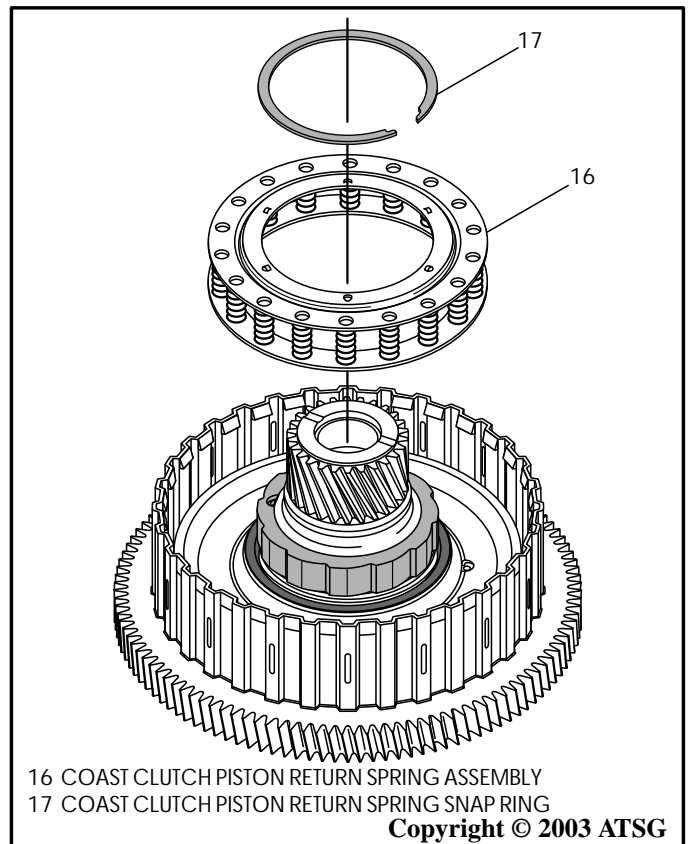

Figure 152
9. Install the coast clutch piston return spring assembly, as shown in Figure 152.
10. Compress the return spring assembly using a foot press and install the return spring snap ring, as shown in Figure 152, and ensure that it is fully seated.